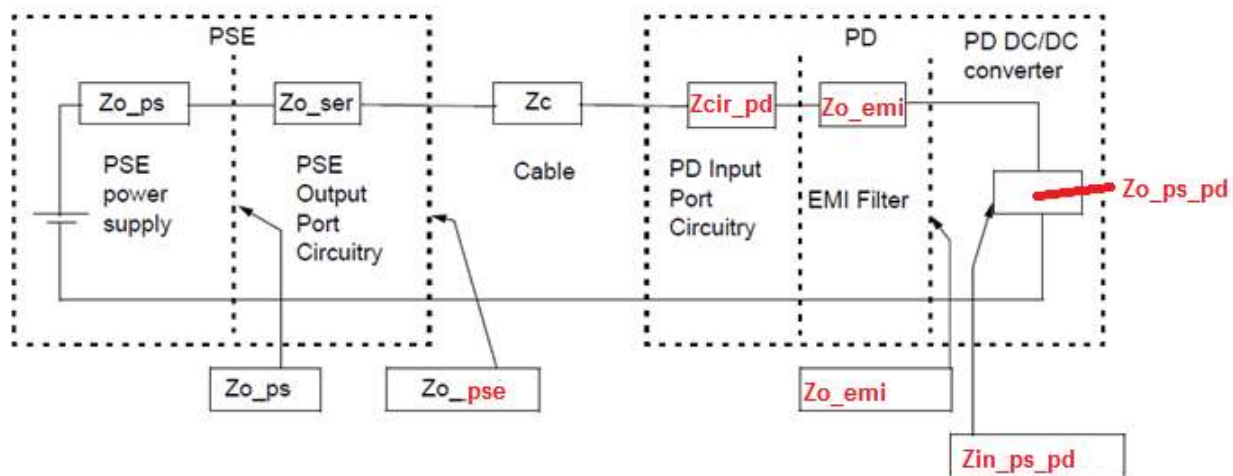

Figure 33A–1—PSE-PD system impedance allocation
In order to prevent potential oscillations between the PSE and PD, the sum of the PSE port output impedance (~~Zo_port~~Zo_pse), the cable impedance (Zc), the PD input port circuitry impedance (~~Zpd_cir~~Zcir_pd) and the PD EMI output filter impedance (Z_emi) should be lower than the PD power supply input impedance (Zin_ps_pd). All the above impedances are converted to the equivalent series impedance form as described by Figure 33A-1. ~~This sub-clause focuses on the PSE part.~~ [Redundant: It is in the title]
See Figure 33A–1 for the PSE-PD system impedance allocation.
2. Update Figure 33A-1 as follows:
See ~~Figure 33A–2 for the test setup and Figure 33A–3 for the test requirements.~~
3. Delete Figure 33A-2 (no need to teach how to measure impedance of a port)
4. Delete Figure 33A-3 (the test requirements are in the text)